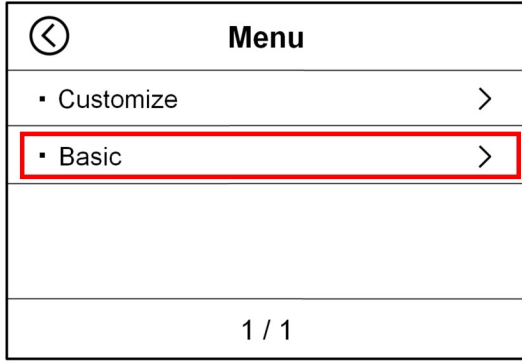
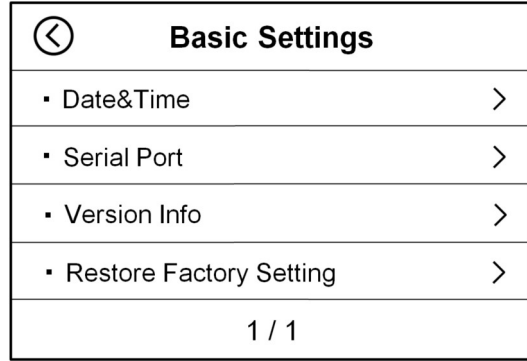
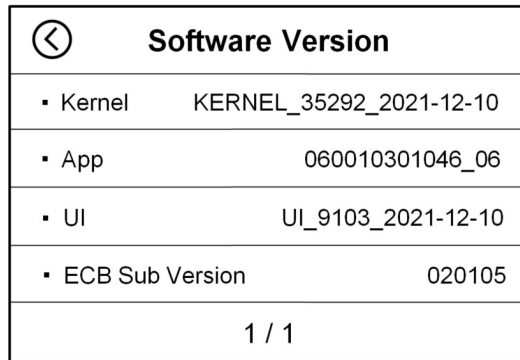

Figure 38
Figure 58
Figure 63
1) In the main interface of the machine, press the "MENU" button on the right to enter the "MENU" interface shown in Figure 38 below. Then touch the "Basic" option to enter the "Basic Settings" interface, as shown in Figure 58 below.
2) In the interface of Figure 58, touch the "Version Info" option to enter the software version interface, as shown in Figure 63 below.